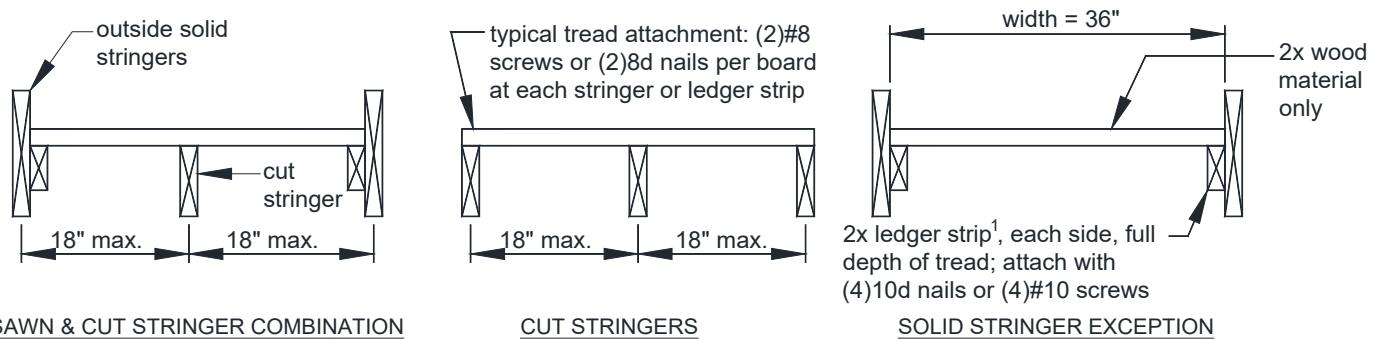

FIGURE 39: STRINGER TREADS
- Tread material shall be equivalent to the decking specified on Page 4 and attached in accordance with FIGURE 39. The span of plastic composites shall be per manufacturer and in some cases may be less than 18 inches specified in FIGURE 39.
- Stairs constructed using the solid stringer exception shall have treads constructed of 2x wood material only; see FIGURE 39.